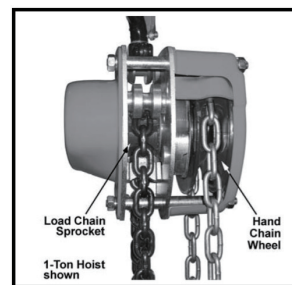

FIG 10
8. If installing entire new chain, insert end of hand chain into groove at top of hand chain wheel (see FIG 10). Rotate hand-wheel and pull chain through.
Install new load chain onto load chain sprocket as follows, referring to FIG 10: